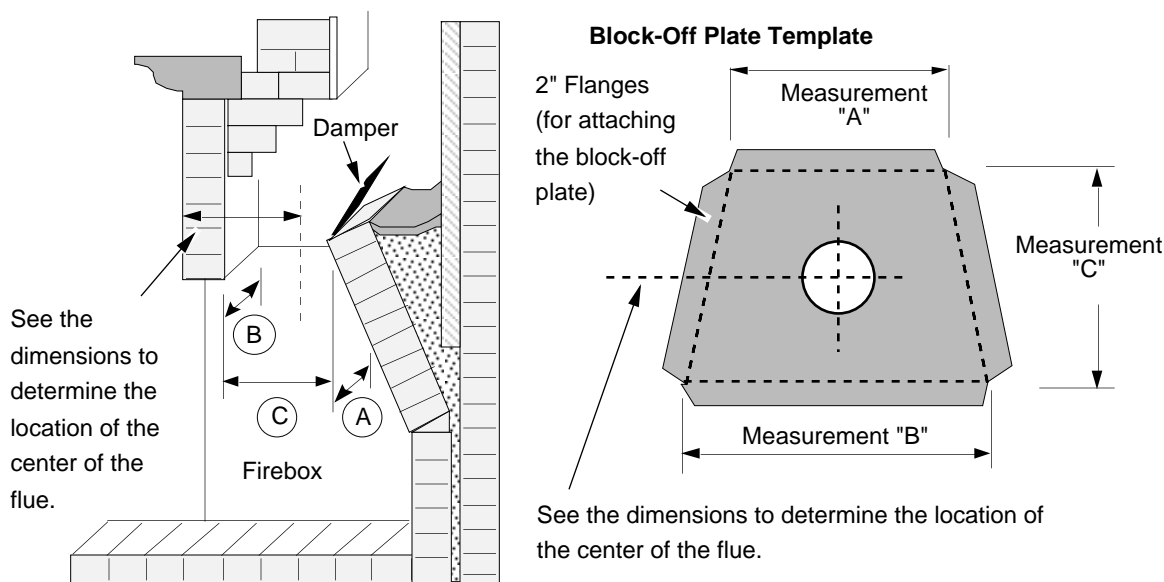

Figure 6
1. Determine a location for the block-off plate at the top of the firebox below the damper area (make it high enough to allow installation of the connection pipe). The location should be level and in an area where it can be mounted easily. Measure the width at the rear ("A") and front ("B") of the firebox at the height where the block-off plate will be installed (see Figure 6). Then measure the depth of the location where the block-off plate will be installed ("C").